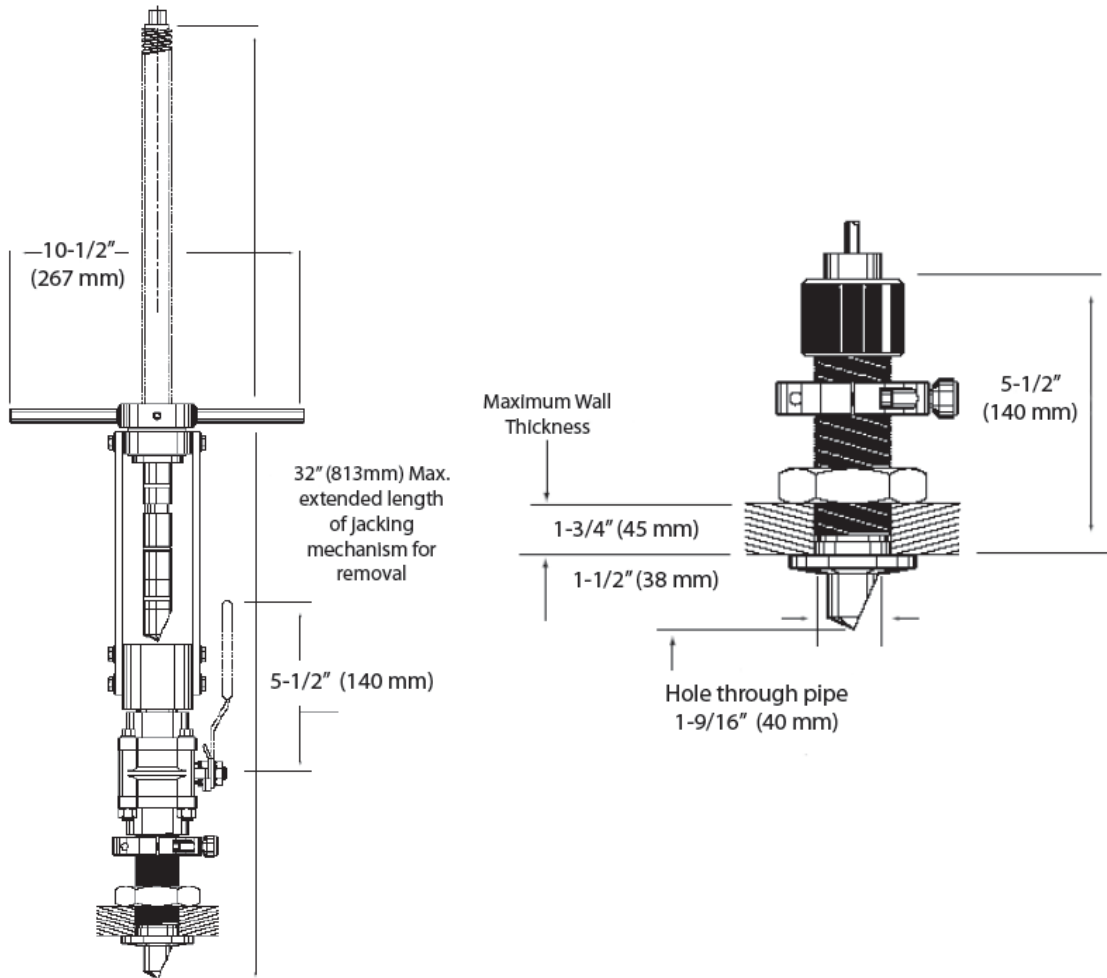

Figure 10-1 7601 Transducer Installed
16. Continue to extract the transducer just until the second O-ring on the transducer body becomes visible - about 3/4 (20mm) inch of the transducer is visible. The transducer face is now clear of the ball valve. (See Figure 10-1 on page B-12).
28. Refer to Figure 10-1 on page B-12 and verify that the following safety conditions are met. If any of these conditions are not met, there may be a safety hazard. Leave the tool in place. Try removing and reinserting the transducer, and rechecking the safety conditions. If that doesn't solve the problem, STOP WORK IMMEDIATELY and contact Accusonic for advice.
**Caution:** Before leaving the transducer, be certain that the locking pin is fully engaged and that the union nut and the E-O connector are installed as shown in Figure 10-1 on page B-12.